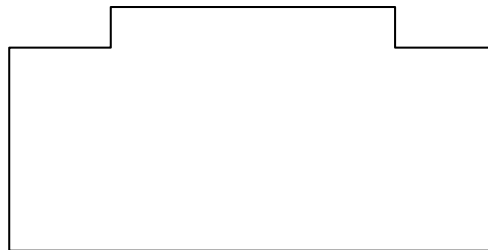
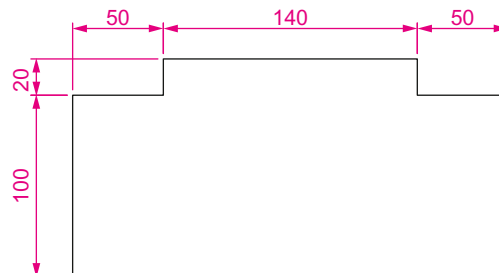

Fig. 6.7 First example – outline to dimension
Fig. 6.8 First example – horizontal and vertical dimensions
First example – hor and ve (horizontal and vertical) – Fig. 6.8
1. Construct the outline Fig. 6.7 using the **Line** tool. Its dimensions are shown in Fig. 6.8.
The result is shown in Fig. 6.8.